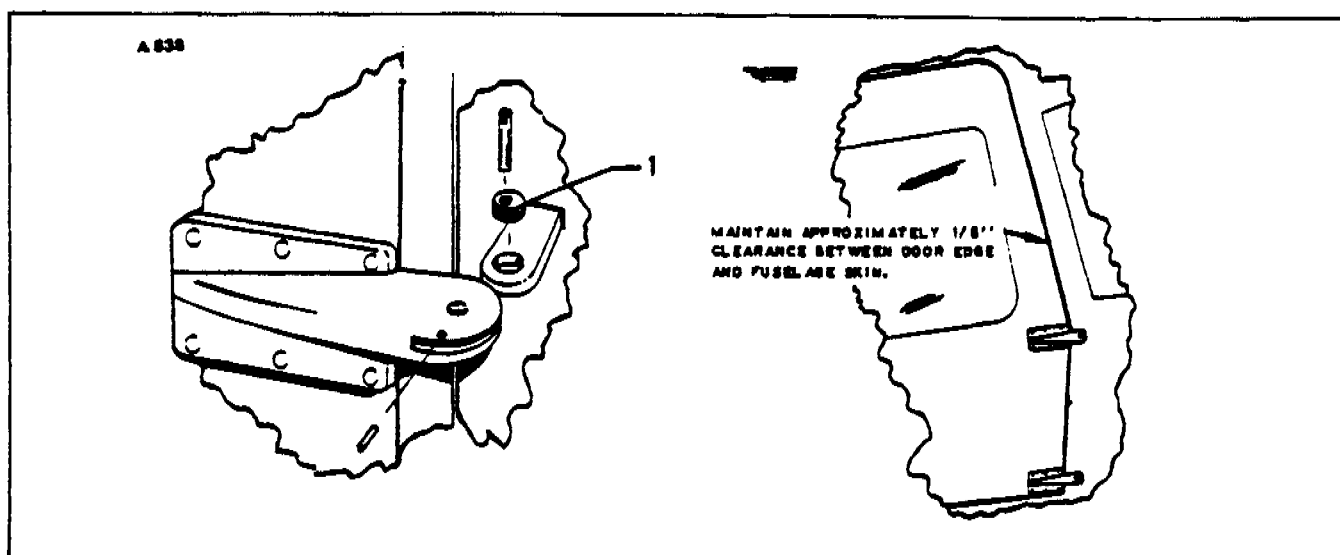

FIGURE 4-5. DOOR INSTALLATION
- b. Swing the door closed and check for alignment of the main door latch and the auxiliary latch with their respective latch striker plate. If the door fails to align, remove it and reposition the two serrated door hinge bushings. (See 1. Figure 4-5.) Repeat the above procedure until the door is properly aligned.
- c. Once the door is properly aligned with the door frame, the procedure of trimming and fitting the door can be started. Using a small pair of metal shears and a file, trim the door edges until there is an approximate clearance of 1/8 inch between the fuselage skin edge and the door edge. (See Figure 4-5.)